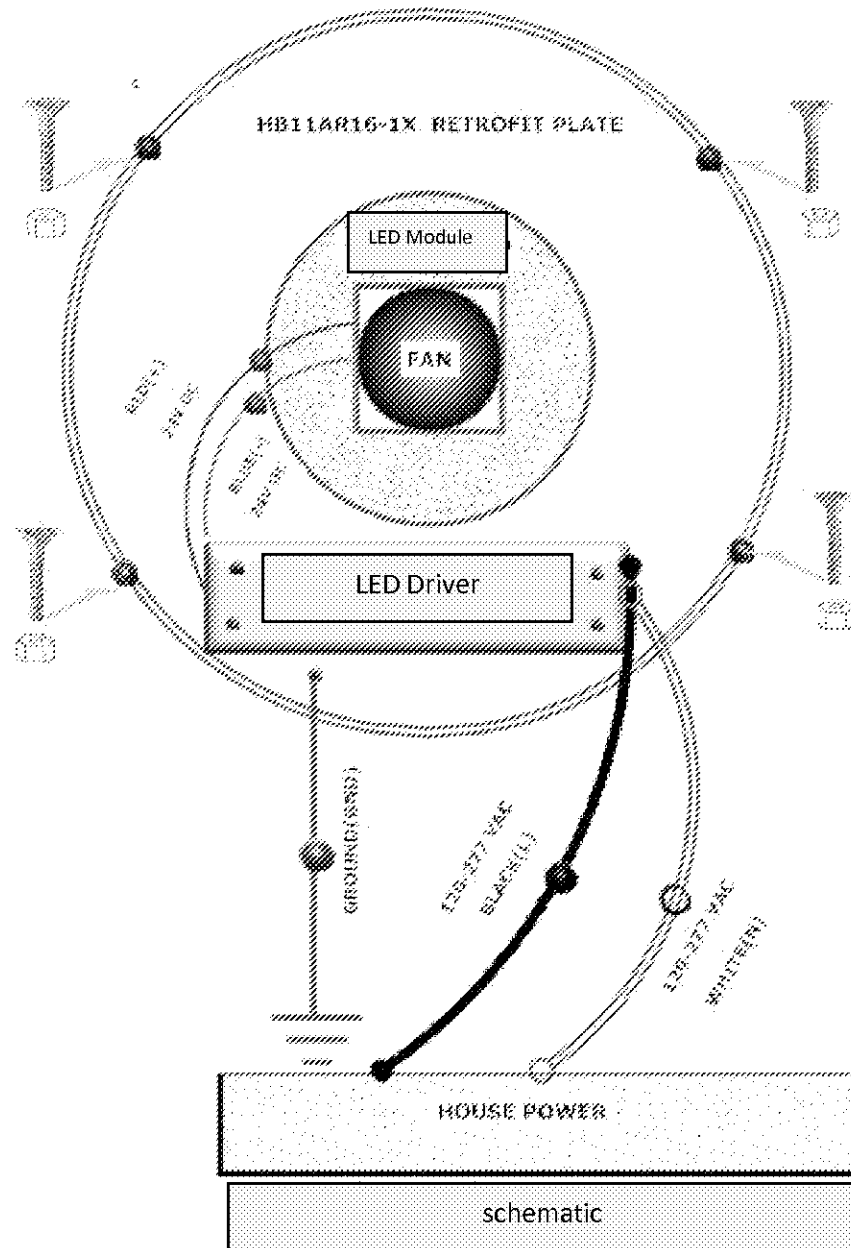

Figure 5
5. Connect the White (NEUTRAL) input power wire to the house power with a white wire using a wire connector as shown in Figure 5.
6. Connect the Black (HOT) input power wire to the house power with a black wire using a wire connector as shown in Figure 5.
7. Connect the Green (GROUND) wire to the house side ground wire using a wire connector as shown in Figure 5. The grounding of the luminaire housing shall be maintained.